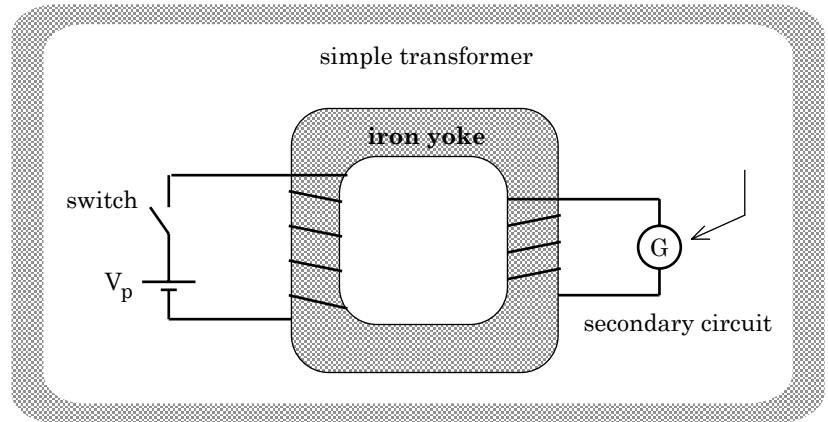

FIGURE 17.31
1.) Consider the iron yoke (the doughnut-shaped structure) in Figure 17.31.